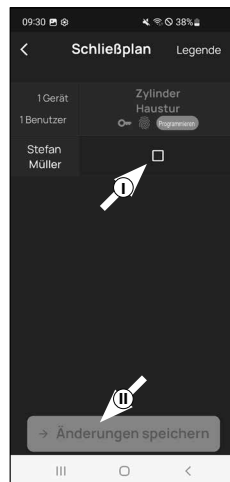

Fig. 2
- 4 A table is displayed consisting of the existing cylinders (horizontal) and the configured users (vertical) (Fig. 2). Select the checkbox where you wish to authorise the respective user to use the corresponding lock (I) (Fig. 2) and then click on the button "Save changes" (II) (Fig. 2).